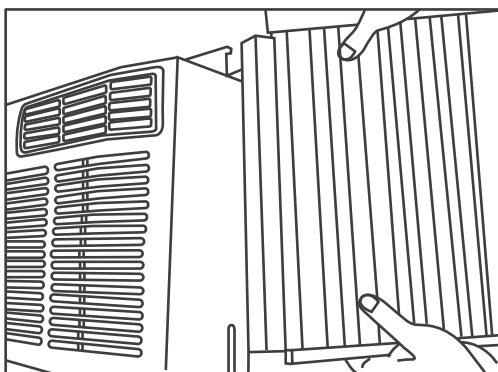

Fig.3
- Slide the free end of the panel into the cabinet as shown in Fig.3. Slide the panel down. Be sure to leave enough space to slip the top and bottom of the frame into the rails of the cabinet.